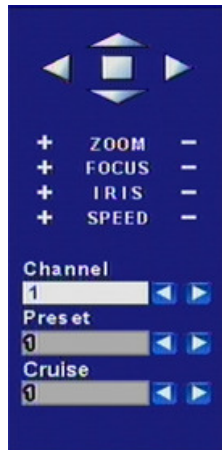

Fig 3.29 PTZ Control
STEP6 Click OK button to save and exit. Press right mouse button to show the control bar. Click PTZ to enter PTZ control, shown as Fig 3.29 PTZ Control.